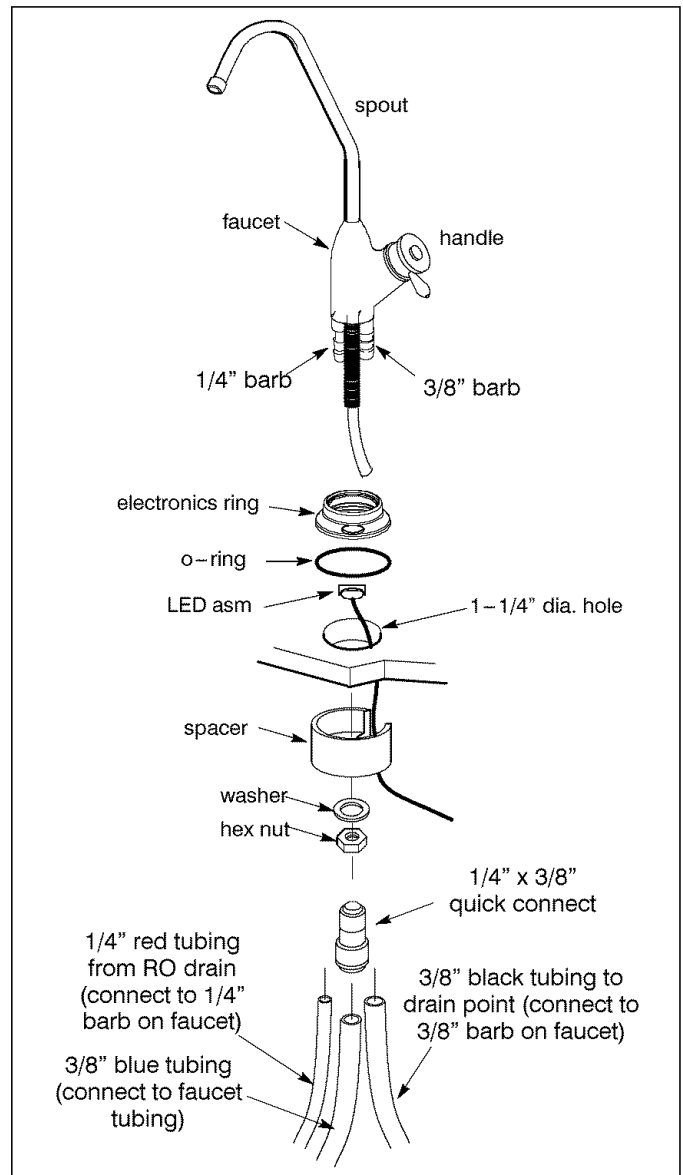

Figure 6
1. Snap LED assembly into electronics ring (may already be assembled) and o-ring in the groove on the bottom of the ring and slide the chrome monitor ring onto the faucet stud. The monitor ring LED wire must be routed through the sink or countertop hole and through the spacer, if spacer is used, (Figure 6).
2. Take the 30" length of 3/8" black tubing and push one end onto the 3/8" faucet barb fitting (Figure 6).
7. Connect the 1/4" blue tubing from faucet to the 3/8" blue tubing from the RO using the 1/4" x 3/8" quick connector (Figure 6).